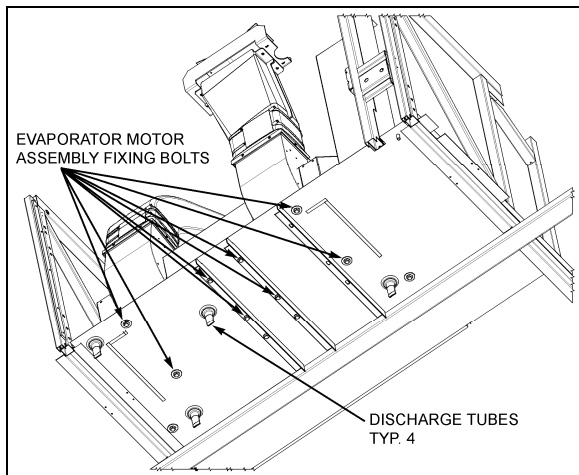

FIGURE 26: EVAPORATOR MOTOR ASSY FIXING BOLTS
7. From under the vehicle, remove the eight bolts retaining the evaporator fan motor support. Remove the complete unit from the evaporator compartment (Fig. 26 & 27).